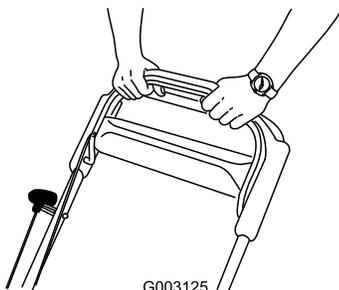

Figure 32
- Hold the blade control bar against the handle (Figure 32).